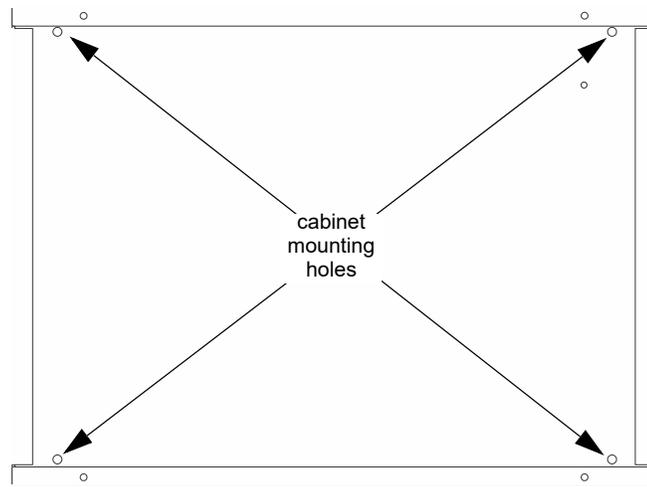

Figure 4.6 RBB Cabinet Mounting Holes
1. Mount the accessory cabinet. See Figure 4.6 for the four cabinet mounting holes.